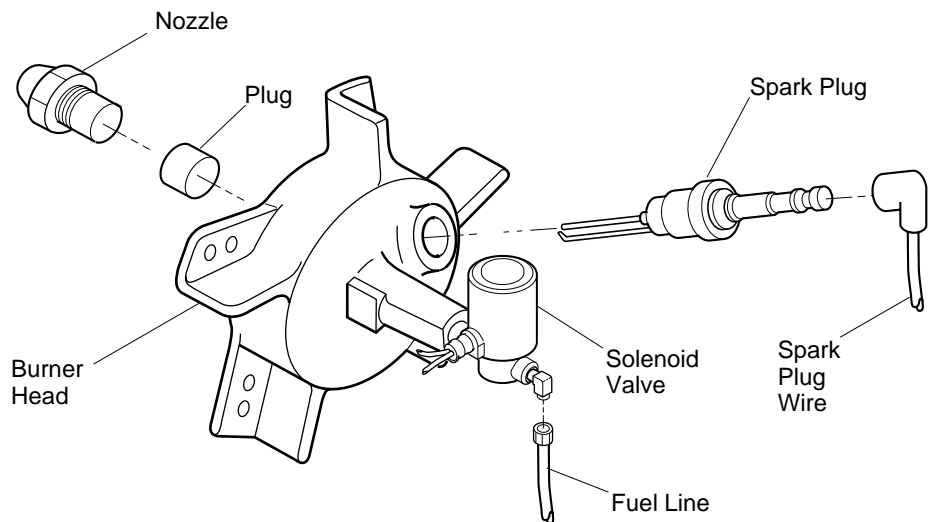

Figure 8- Replacing Nozzle
7. Carefully remove nozzle from burner head using 5/8" socket wrench (see Figure 8).